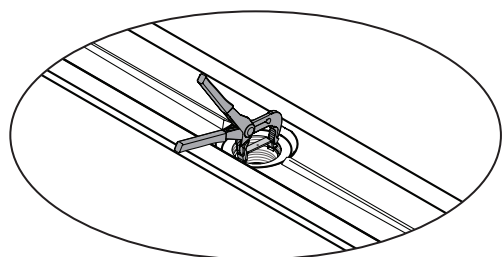

Figure 12
- 2** Using the adjustable pliers, snap the support bracket into the groove in the drain fitting. The top surface of the support bracket should be flush with the top surface of drain pyramids. (Figure 12)